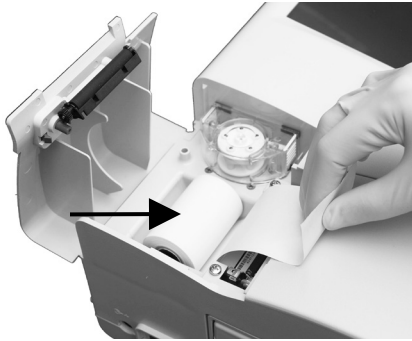

Fig. 2-12 Install Printer Paper
- Pull the end of the paper upward and slightly out of the paper tray (Fig. 2-12).